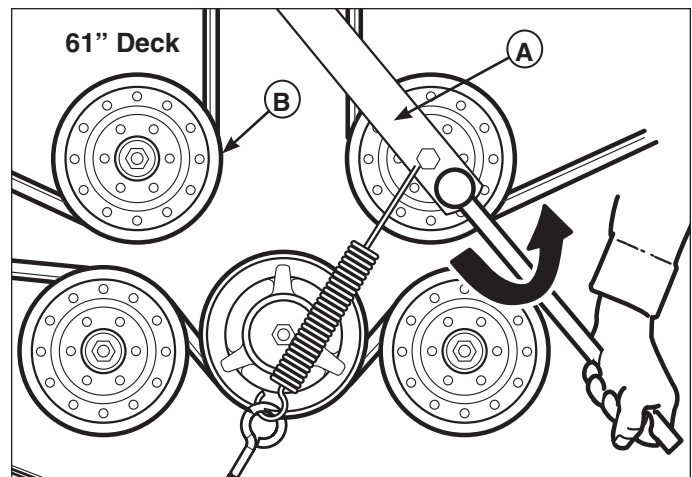

Figure 5. Removing the Mower Deck Drive Belt
2. Using a 1/2" breaker bar, place the square end in the square hole located in the end of the idler arm (**A**, **Figure 5**). Carefully rotate the breaker bar COUNTER-CLOCKWISE, which will relieve the tension on the mower deck drive belt exerted from the idler arm.